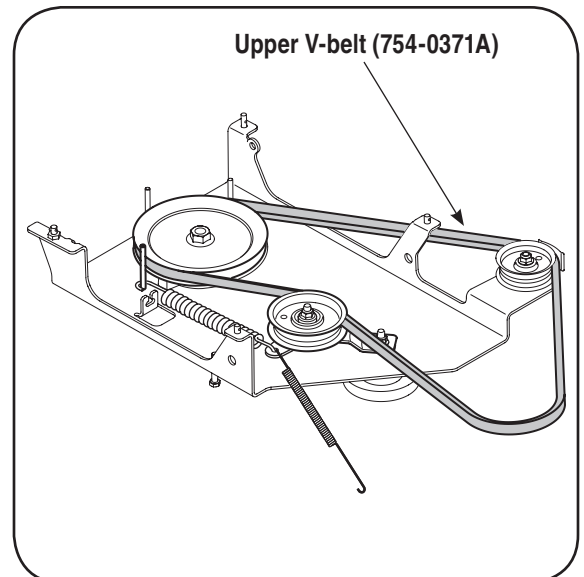

Figure 9
5. Position the upper v-belt (754-0371A) as illustrated in Figure 9.